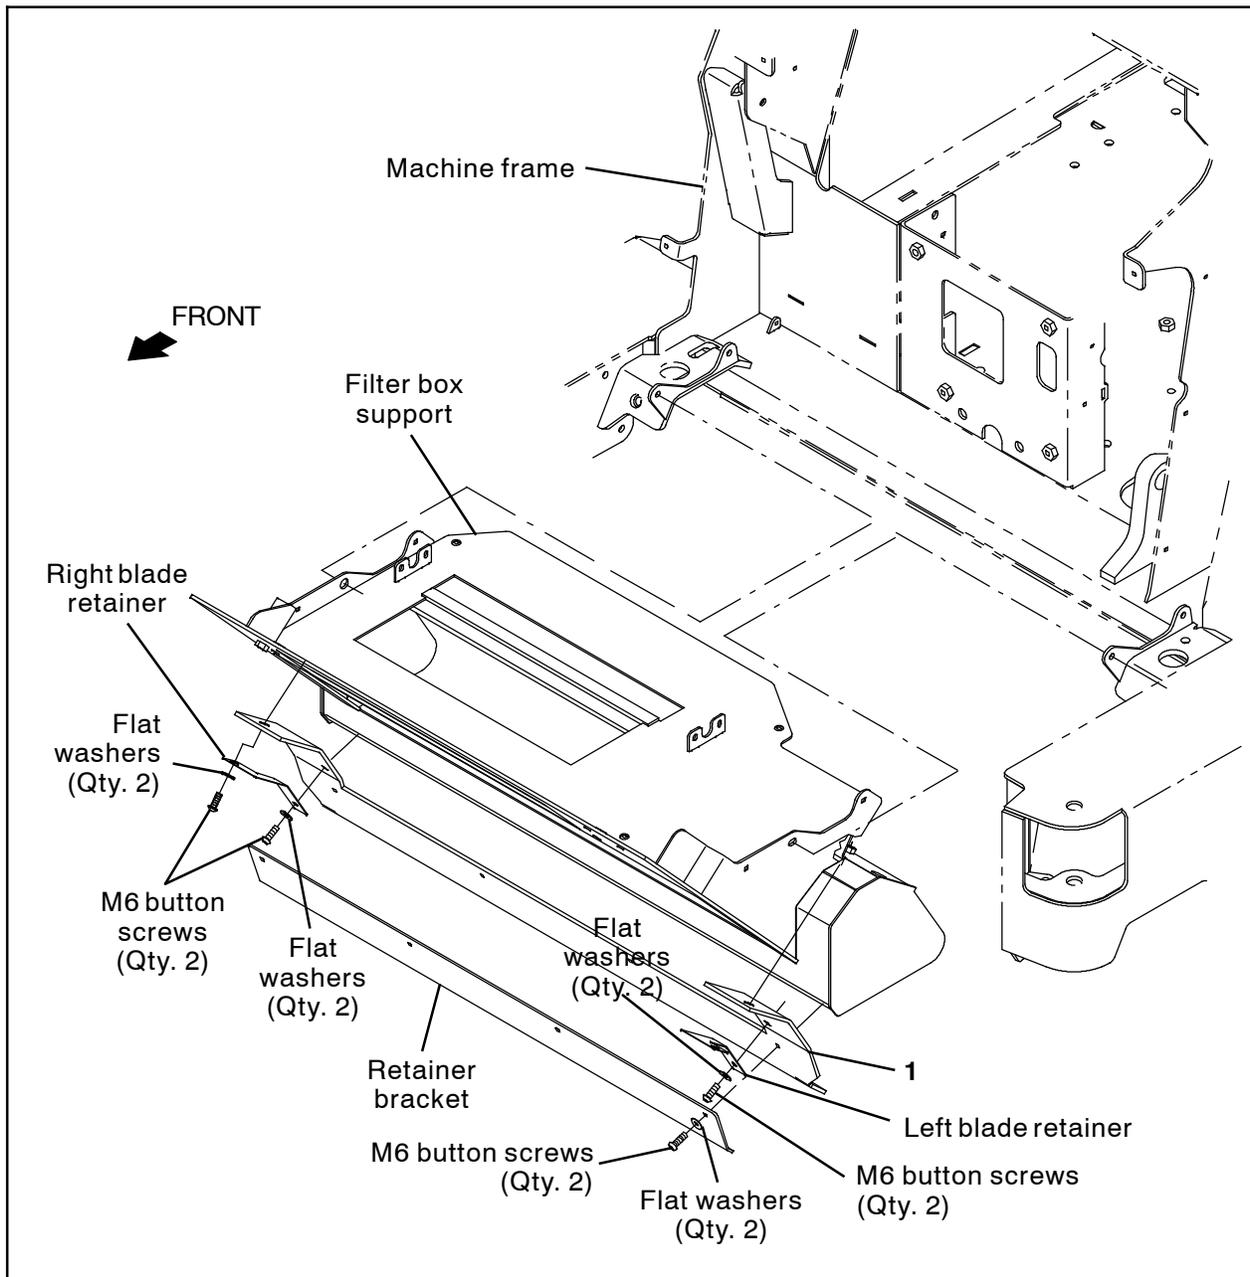

FIG. 3
5. Remove the retainer bracket from the filter support box. Set the retainer bracket, flat washers, and M6 button screws aside. (Fig. 3)
6. Remove the rear diverter seal from the filter support box. Set the right blade retainer, left blade retainer, all flat washers, and all M6 button screws aside. Discard the rear diverter seal. (Fig. 3)
7. Use the right blade retainer, left blade retainer, and saved hardware to install the new rear diverter seal (1) onto the filter box support. (Fig. 3)